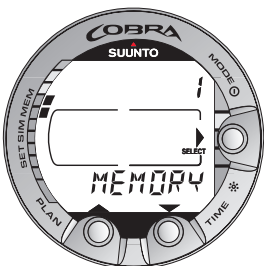

Fig. 4.2. Memory option. [1 MEMORY].
2. Scroll the mode options by pressing the arrow up/down buttons. When scrolling the options, the label and an equivalent number are shown on the display (Fig. 4.2. - 4.4.).
6. Depending on the mode, you are now able to have a look at the memories, simulate a dive, or make desired settings (use the the arrow up/down buttons). The **SMART** button is used to Quit or to confirm the settings (OK).